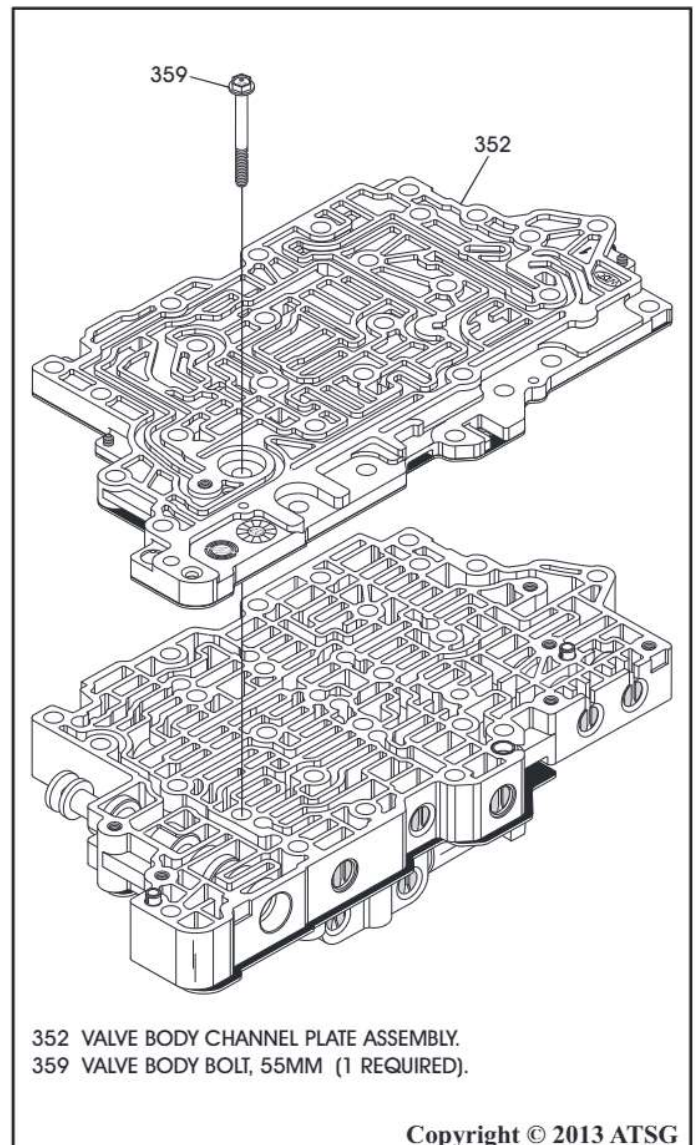

Figure 181
31. Install the completed channel plate and upper spacer plate assembly onto the upper valve body, and over the dowels, as shown in Figure 181.
32. Install one 55mm bolt into the location shown in Figure 181.